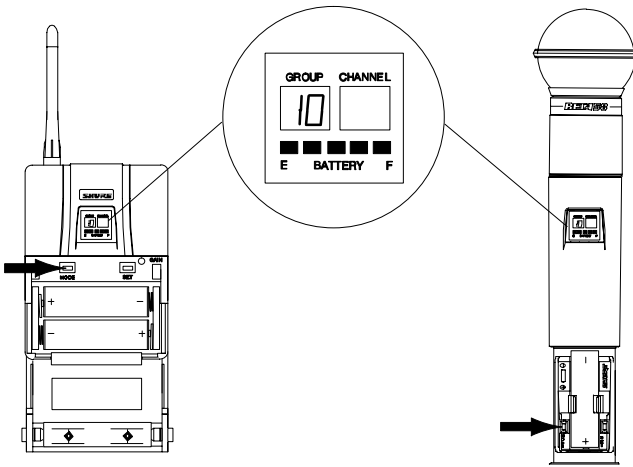

FIGURE 38
3. Press and hold down the MODE button until only the Group number displays, as shown in Figure 38.